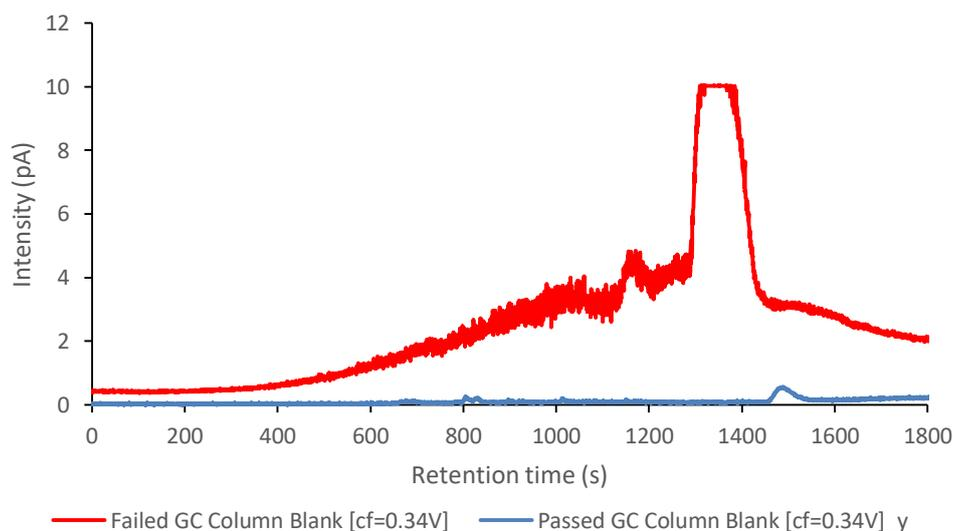

Figure 32. Comparison between and acceptable blank and a failed blank.
- 5.8.9 Demonstrate the GC column is blank – all background peaks should be <math><2\text{pA}</math> with no upwards baseline drift (Figure 32)